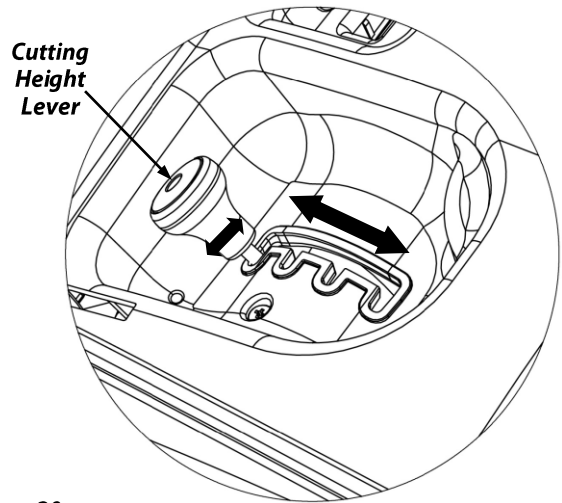

Figure 20
Using the Cutting Height Lever located under the Access Cover (**Figure 20**), adjust the Cutting Height so that you cut off only one (1) to two (2) inches of grass at a time.
2. Make sure all four (4) Wheels are level.